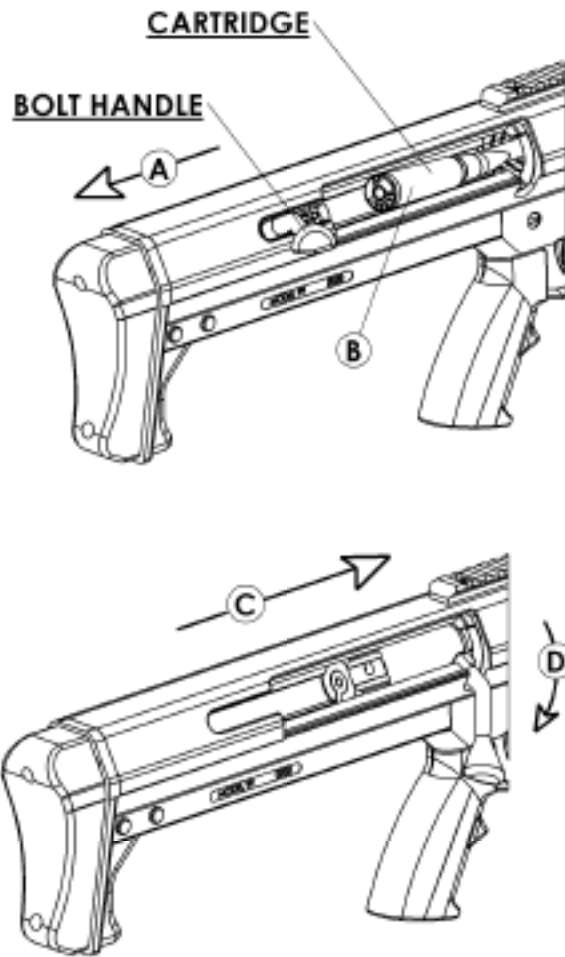

Figure 4. Loading sequence.
2. With the rifle pointed in a safe direction, lift the bolt handle and draw it to the rear (Figure 4, step A.). Insert a cartridge into the ejection port (Figure 4, step B.) Push the bolt handle fully forward (Figure 4, step C.) and then downward (Figure 4, step D.).